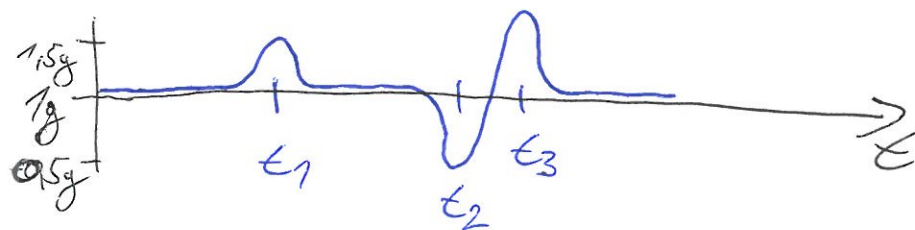

Fig. 1
- Having a look at Figure 1 the value of $1g$ at rest suggests that ^{the} positive z-axis points towards the ground, but when you then start lifting up your leg against the ~~positive~~ z-axis the peak should be negative (that is, pointing downwards in the graph)